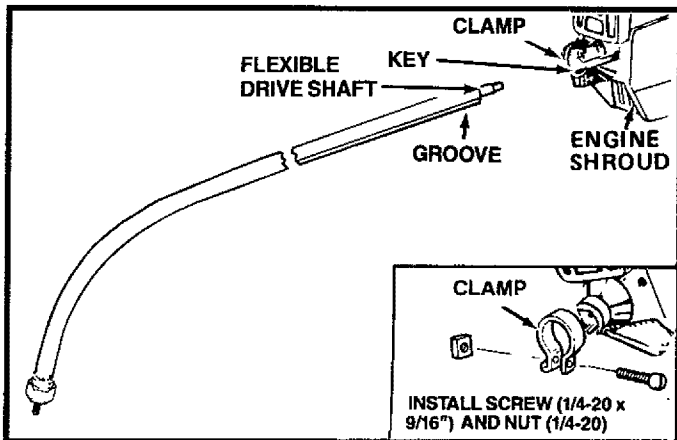

Figure 1
1. DRIVE SHAFT HOUSING — Figure 1.
- Place clamp from loose parts bag on the engine shroud as shown in Figure 1.
- Fit the end of the flexible drive shaft into the square-shaped opening inside the engine shroud. Figure 1.
- Install clamp screw and square nut as shown in Figure 1.